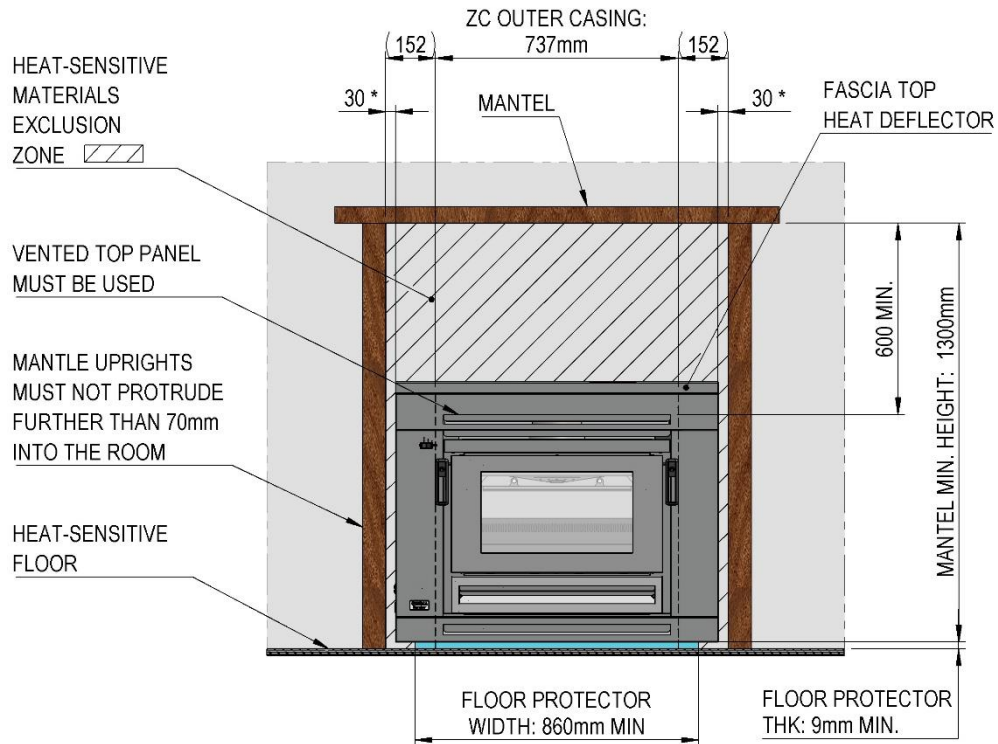

Fig. 5
- E1. Non-combustible front cladding **must be used**, to a minimum of 600mm above the top-most panel vent, and a minimum of 30mm either side of the fascia (152mm either side of the outer casing of the firebox (Zero Clearance Kit). (Fig. 5)